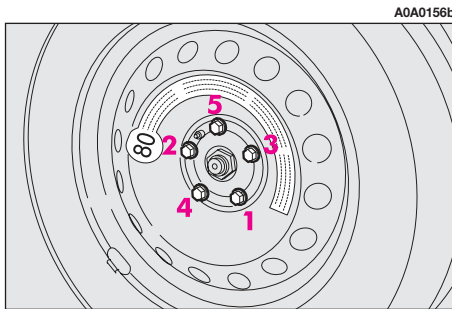

fig. 8
- Using the wrench provided, fully tighten the bolts in the sequence shown in **fig. 8**.
– Using the wrench provided, fully tighten the bolts in the sequence shown previously for the compact spare wheel **fig. 8**.
– Using the wrench provided, tighten the bolts in the sequence shown previously for the compact spare wheel **fig. 8**.